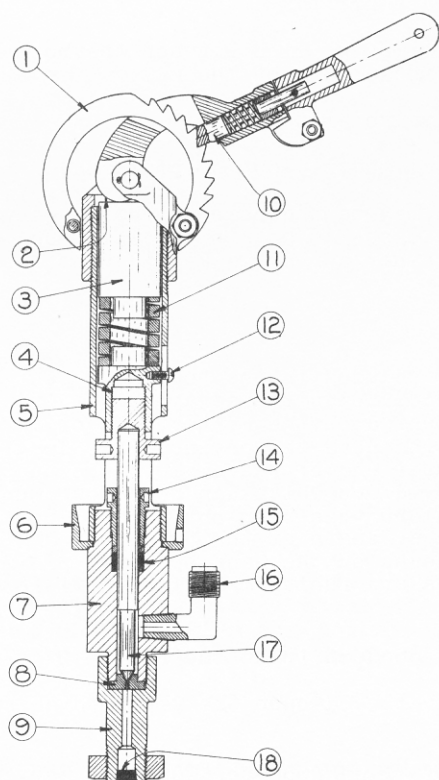

FIG. 0-2
Referring to Fig. 0-2 the regulating valve is built around valve body (7). The hardened steel valve seat (8) is held between the body and adapter stud (9) which screws on the bottom of the body, and through passage (18) allows the by-passed fuel to escape. Fuel inlet elbow (16) is threaded into the side of the body, supplying fuel to the annular space around the reduced section of the valve stem (17). The top of the body is bored to receive stem packing (15) and packing gland (14). Screwed to the top of the body is relief valve spring cage (5). This cage is screwed down upon the drain cup holding the latter in place against a shoulder on the body.